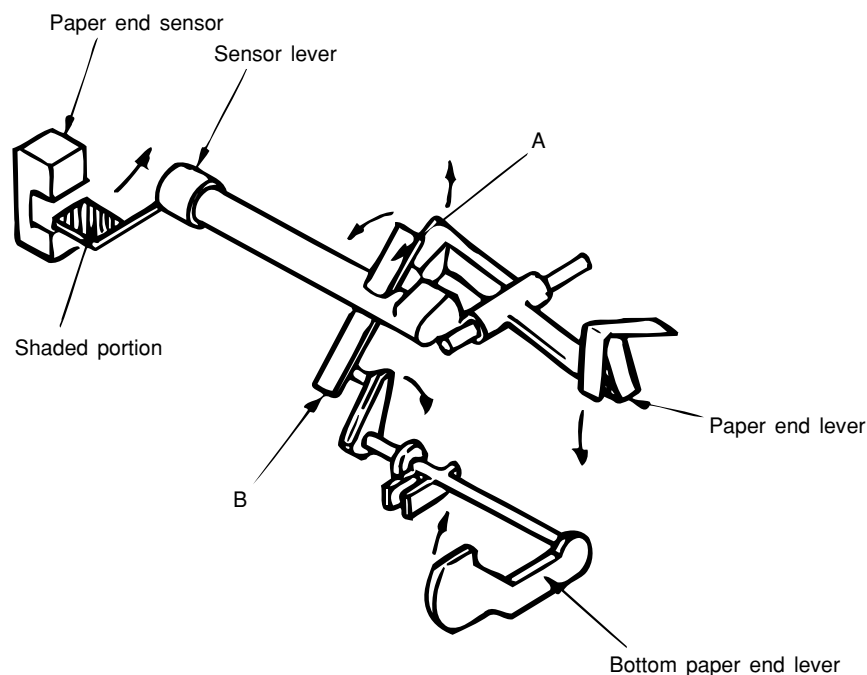

Figure 2-15
2.2.6 Paper Detection Mechanism (See Figure 2-15.)